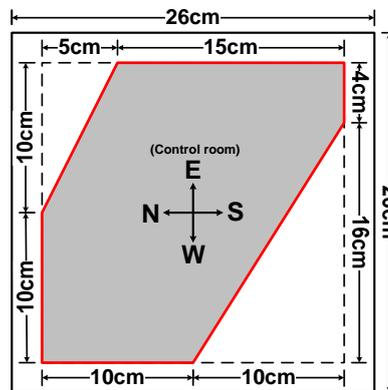

Figure 2. The allowable site area of the model.
4.2 Site area of the model	<p>4.2.1 Models must be constructed on the base board (26 cm × 26 cm × 0.55 cm) provided by the organizer. A 3 cm clearance around the edges of the base board must be kept in order to fix the model onto the shaking table. Teams violating this rule will be disqualified or punished by adding penalty weights to the models.</p> <p>4.2.2 The allowable site area is the gray hexagon shown in Figure 2. The projection of the entire model onto the base board must be within this gray hexagon. Shifting or rotating the entire model is not allowed.</p>